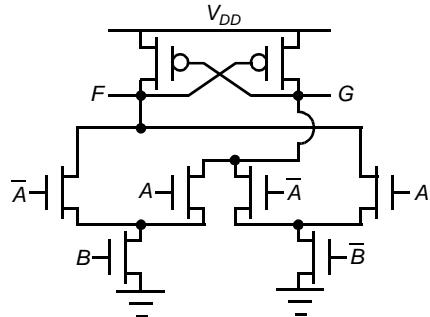

Figure 6.6 Two-input complex logic gate.
- [E, Layout, 4.2] A complex logic gate is shown in Figure 6.6.
- Assuming $W/L = 0.5\mu/0.25\mu$ for all nmos transistors and $W/L = 2\mu/0.25\mu$ for the pmos transistors, produce a layout of the gate using Magic. Your layout should conform to the following datapath style: (1) Inputs should enter the layout from the left in polysilicon; (2) The outputs should exit the layout at the right in polysilicon (since the outputs would probably be driving transistor gate inputs of the next cell to the right); (3) Power and ground lines should run vertically in metal 1.